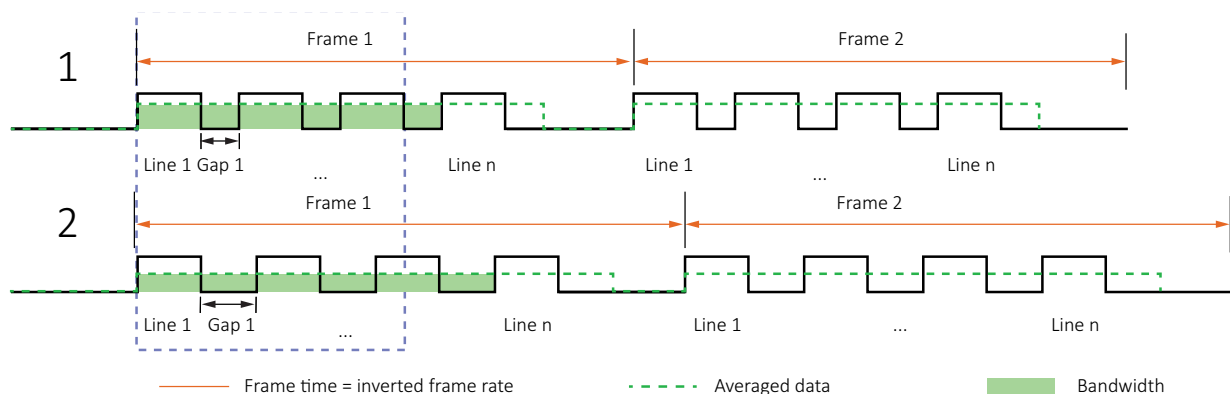

Figure 102: Sensor data output and camera data output
Figure 102 shows the bandwidth for a higher (1) and a lower (2) value for **DeviceLinkThroughputLimit** with Alvium G1.
- When high-resolution Alvium G1 cameras are operated at higher frame rates, corrupted frames can occur. This is shown schematically in Figure 102.